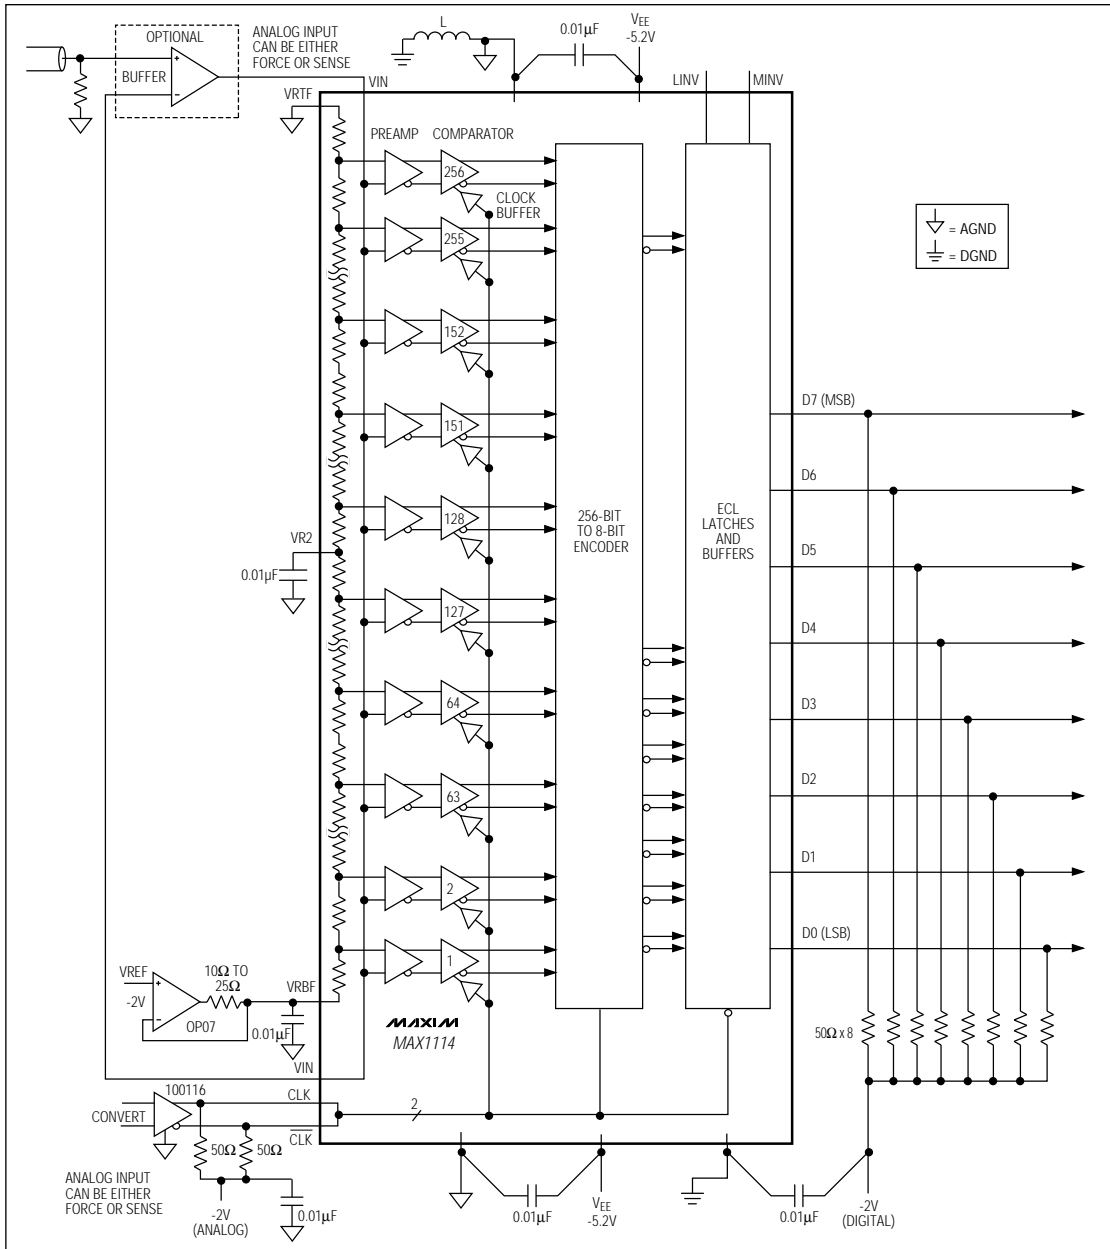

Figure 1. Typical Interface Circuit 1
(Circuit of Figure 1,  $T_A = +25^\circ\text{C}$ , unless otherwise noted.)
Figure 1 shows the typical interface circuit. The MAX1114 is relatively easy to apply, depending on the accuracy needed. Wire-wrap may be employed with careful point-to-point ground connections if desired, but a double-sided PC board with a ground plane on the component side, separated into digital and analog sections gives the best performance. The converter is bonded-out to place the digital pins on the left side of the package and the analog pins on the right side. Additionally, an RF bead connection through a single point from the analog to digital ground planes reduces ground noise pickup.
*VEE* is the supply pin with AGND as ground for the device. The power-supply pins should be bypassed as close to the device as possible with at least a  $0.01\mu\text{F}$  ceramic capacitor. A  $1\mu\text{F}$  tantalum should also be used for low-frequency suppression. DGND is the ground for the ECL outputs and should be referenced to the output pulldown voltage and bypassed as shown in Figure 1.
There are two reference inputs and one external reference voltage tap. These are  $-2\text{V}$  (VRBF), mid-tap (VR2) and AGND (VRTF). The reference pins can be driven as shown in Figure 1. VR2 should be bypassed to AGND for further noise suppression.